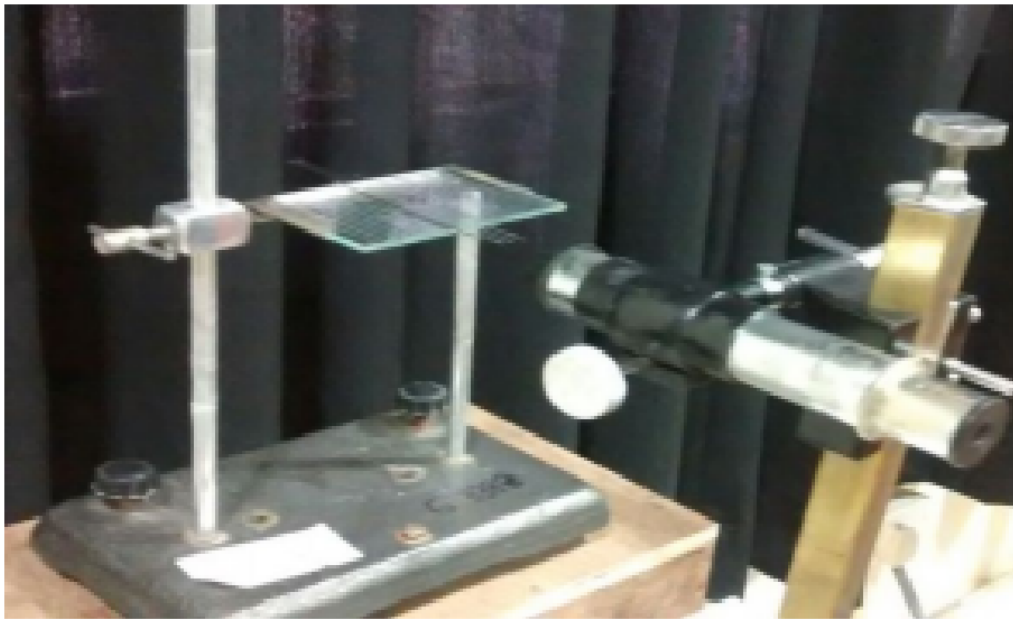

Figure 3: Set up for the determination of the radius of the capillary tube
When the free surface of a liquid comes in contact with a solid, it becomes curved near the place of contact. The angle inside the liquid between the tangent to the solid surface and the tangent to the liquid surface at the point of contact is defined as the angle of contact for that pair of solid and liquid (shown in Figure 3).
3. Mount also a pointed needle near the glass strip parallel to the capillary tubes with its lower end slightly above the lower ends of the capillary tubes [shown in Figure 3]. Fill the water to the rim of the pot and then lower the needle to just touch the surface.
4. Clamp the glass- tubes set up horizontally and find its inner diameter AB along one direction and CD along the perpendicular direction with respect to AB [shown in Figure 3]. Calculate the mean diameter $[(AB+CD)/2]$ and hence mean radius r .